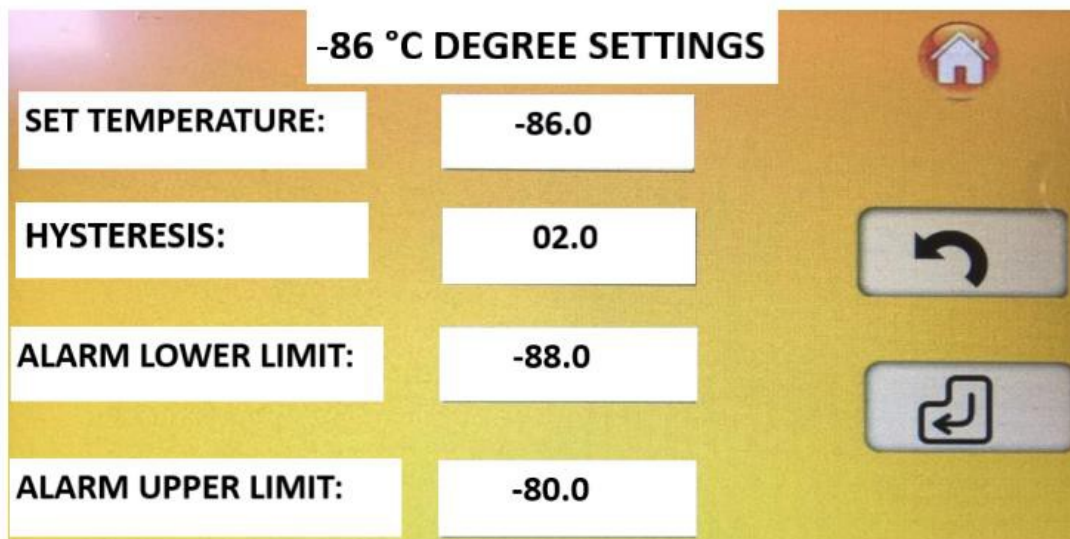

FIGURE 5
- After entering the password for the set value settings, the screen in *FIGURE 5* appears.
On the screen in *FIGURE 5*;